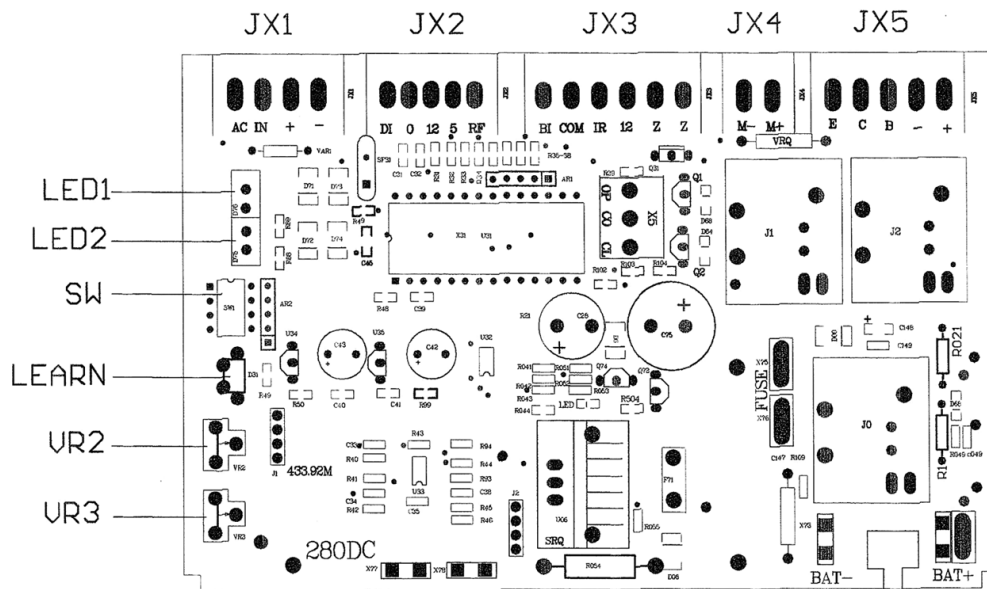

Fig.15 Control Board Scheme
- Tuning the auto-reverse safety function: To adjust the opening force, rotate the 'Open Force VR2' knob (See Fig.15) with a screwdriver. The resistance may be increased or decreased by rotating clockwise or counterclockwise. To adjust the closing force rotate the 'Close Force VR3' knob (See Fig.15) with a screwdriver. The resistance may be increased or decreased by rotating clockwise or counterclockwise. By turning the overload variable resistors, you can adjust how much force it will take to cause the gate to stop and auto reverse when closing or stop if opening.